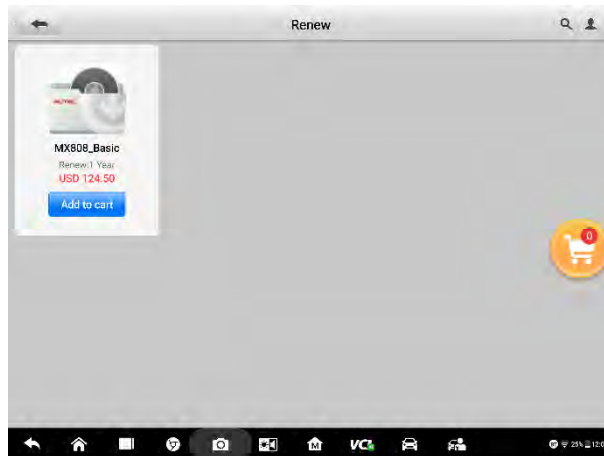

Figure 20-2 Sample Software Buy Screen
5. **Blue box** - provides conditional access to new software services or valid-added services for specific devices. (For example, tap the **Renew**, you will see a list of options, as Figure 20-2 shows.)
2. Select the software type you need from the list (**Figure 20-2**). Add them to your shop cart.